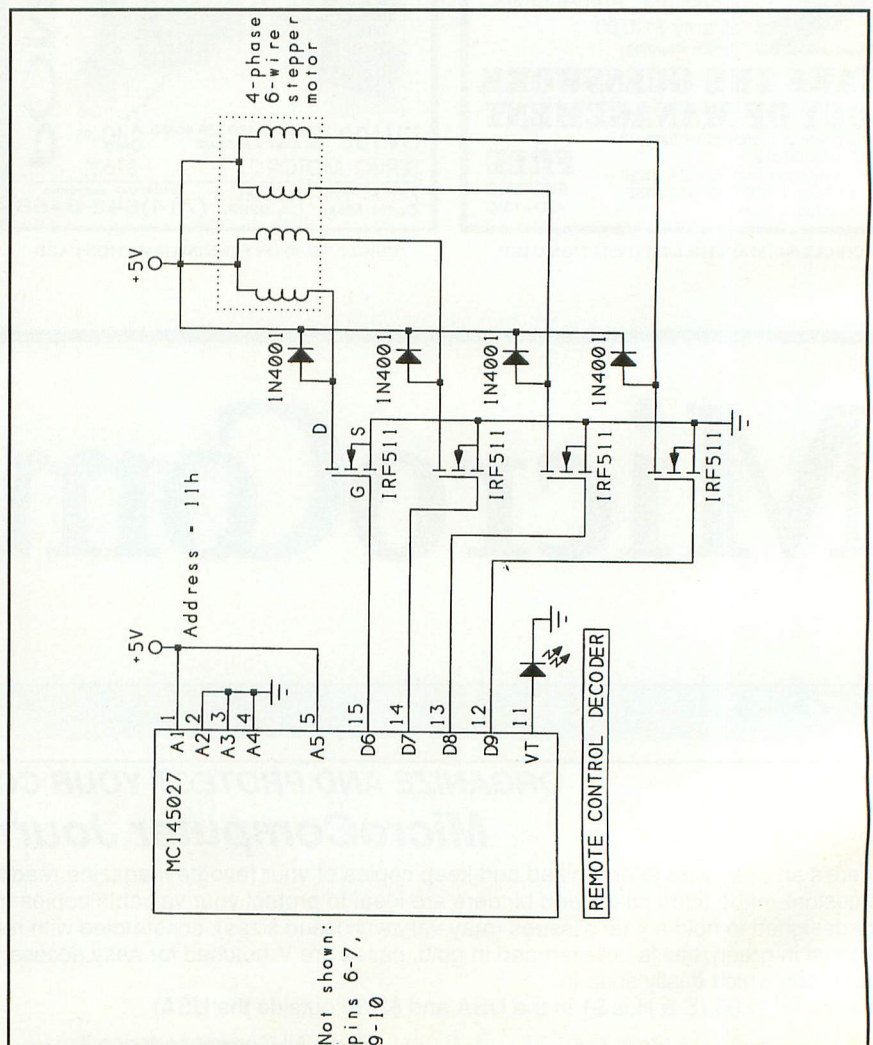

Figure 3.
• As a result of a computer mix-up, the schematic diagram shown as Fig. 3 in Jan Axelson's "Wireless Links, Part 3" article in the November 1993 issue of *ComputerCraft* was a repeat of the Fig. 4 schematic in the same article. The schematic shown here is the correct one for Fig. 3.